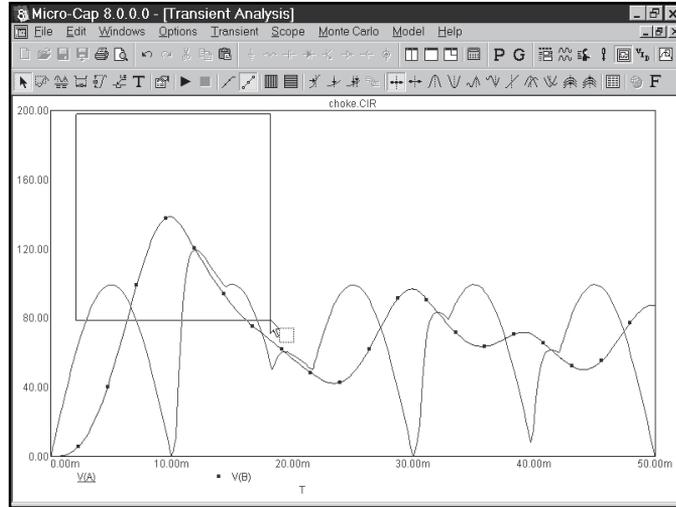

Figure 7-3 Magnifying a plot region
Press ESC to remove the menus. Click the left mouse button just above and to the left of the large peak of the V(B) curve. While holding the left button down, drag the mouse down and to the right to create a magnification box like the one shown in Figure 7-3.